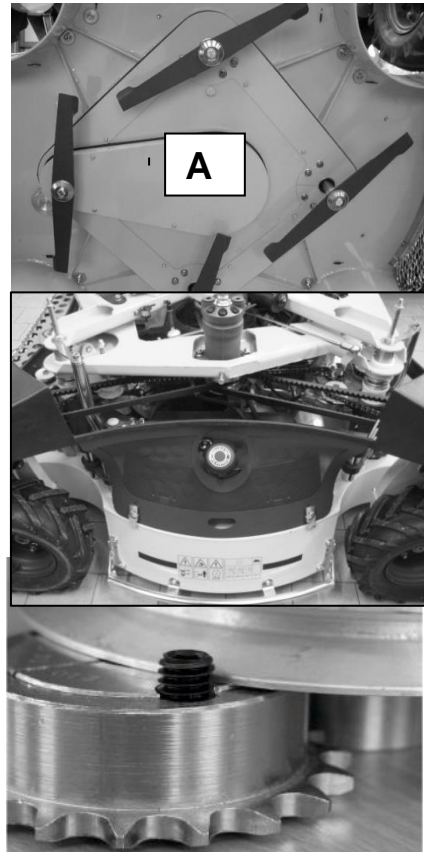

Figure 91.
- Release the steering chain taper lock (figure 91)